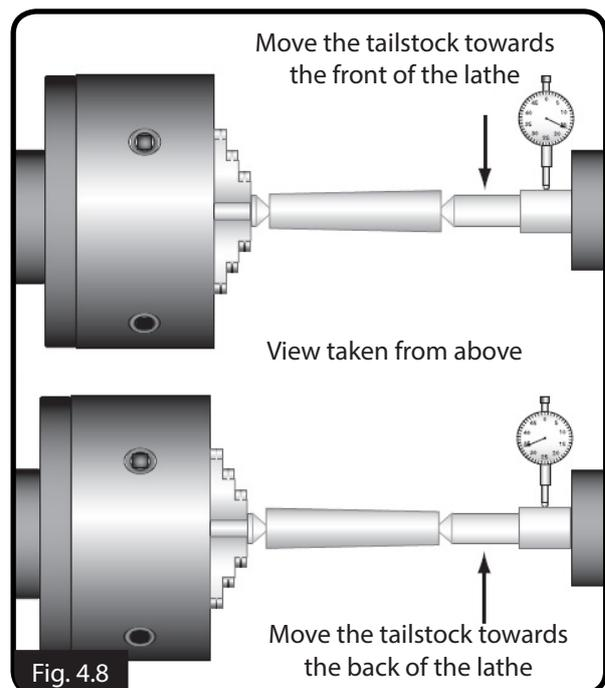

Fig. 4.8
6. Mount a test or dial indicator so that the plunger is on the tailstock quill and set the dial to "0" (Fig. 4.8)